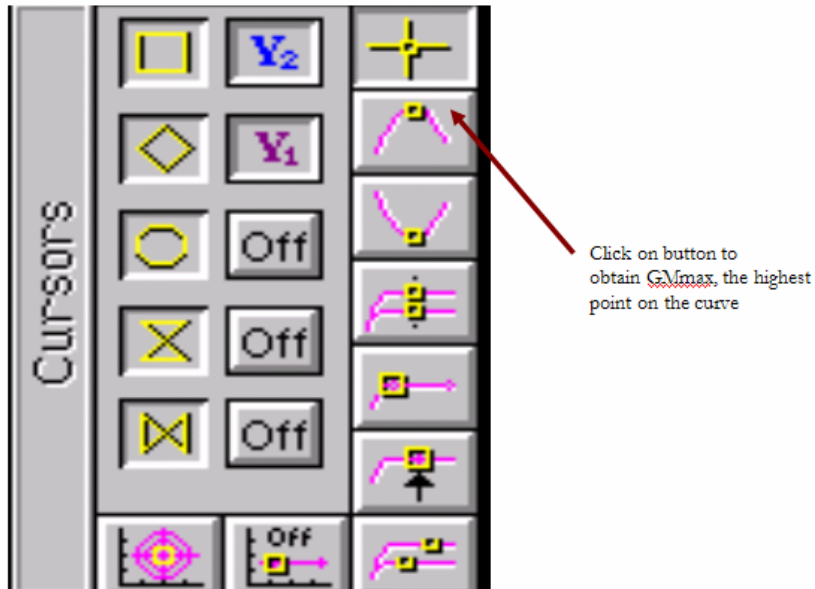
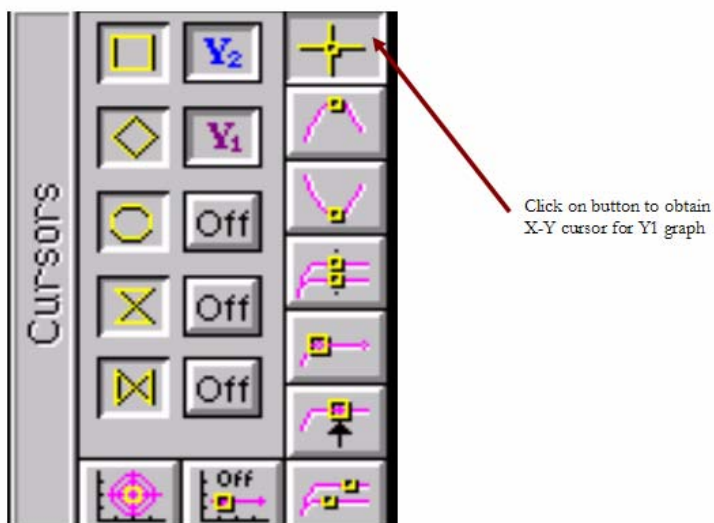

Figure 38: Cursors window (obtaining GMmax)
Figure 39: Cursors window (obtaining IDmax & VGmax)
9. The following menu should pop-up like in Figure 38. Choose a shape, for example the square and click on the OFF button on the right side. Click the OFF button twice to put the cursor on Y2 (GMG curve). To obtain the highest point on this graph (GMmax), click on the button in Figure 38.
10. To obtain IDmax and VGmax, select another shape from Figure 38. For example select the diamond, click the OFF button once to choose Y1. Then click the X-Y cursors shown in Figure 39.